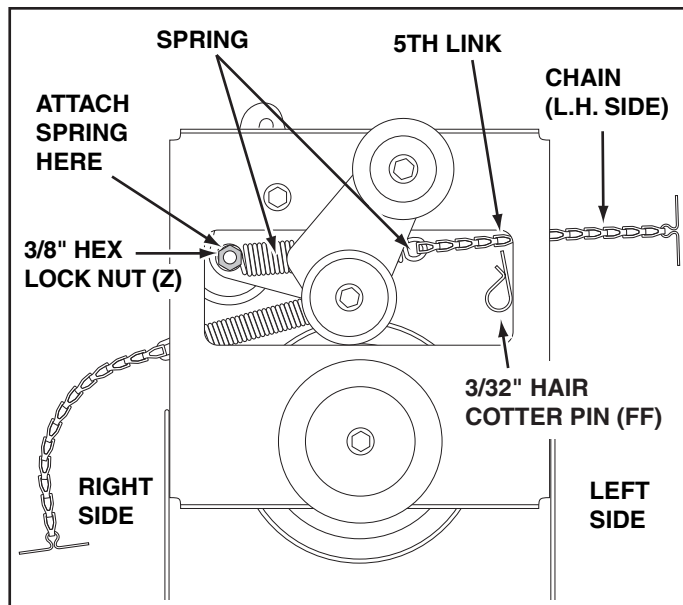

FIGURE 16
STEP 16: (SEE FIGURE 16)
- Hook one end of the spring (OO) supplied in the parts bag through the end link of the tensioning chain.
- With the clutch/idler assembly turned upside down, hook the other end of the spring onto the end of the bolt and nut which secure the idler pulley to the upper idler arm. Assemble a 3/8" hex lock nut (Z) onto the bolt and nut, leaving enough gap between the nuts for the spring to pivot freely.
- Attach a 3/32" hairpin cotter (FF) to the chain, placing it in the fifth link from the spring.